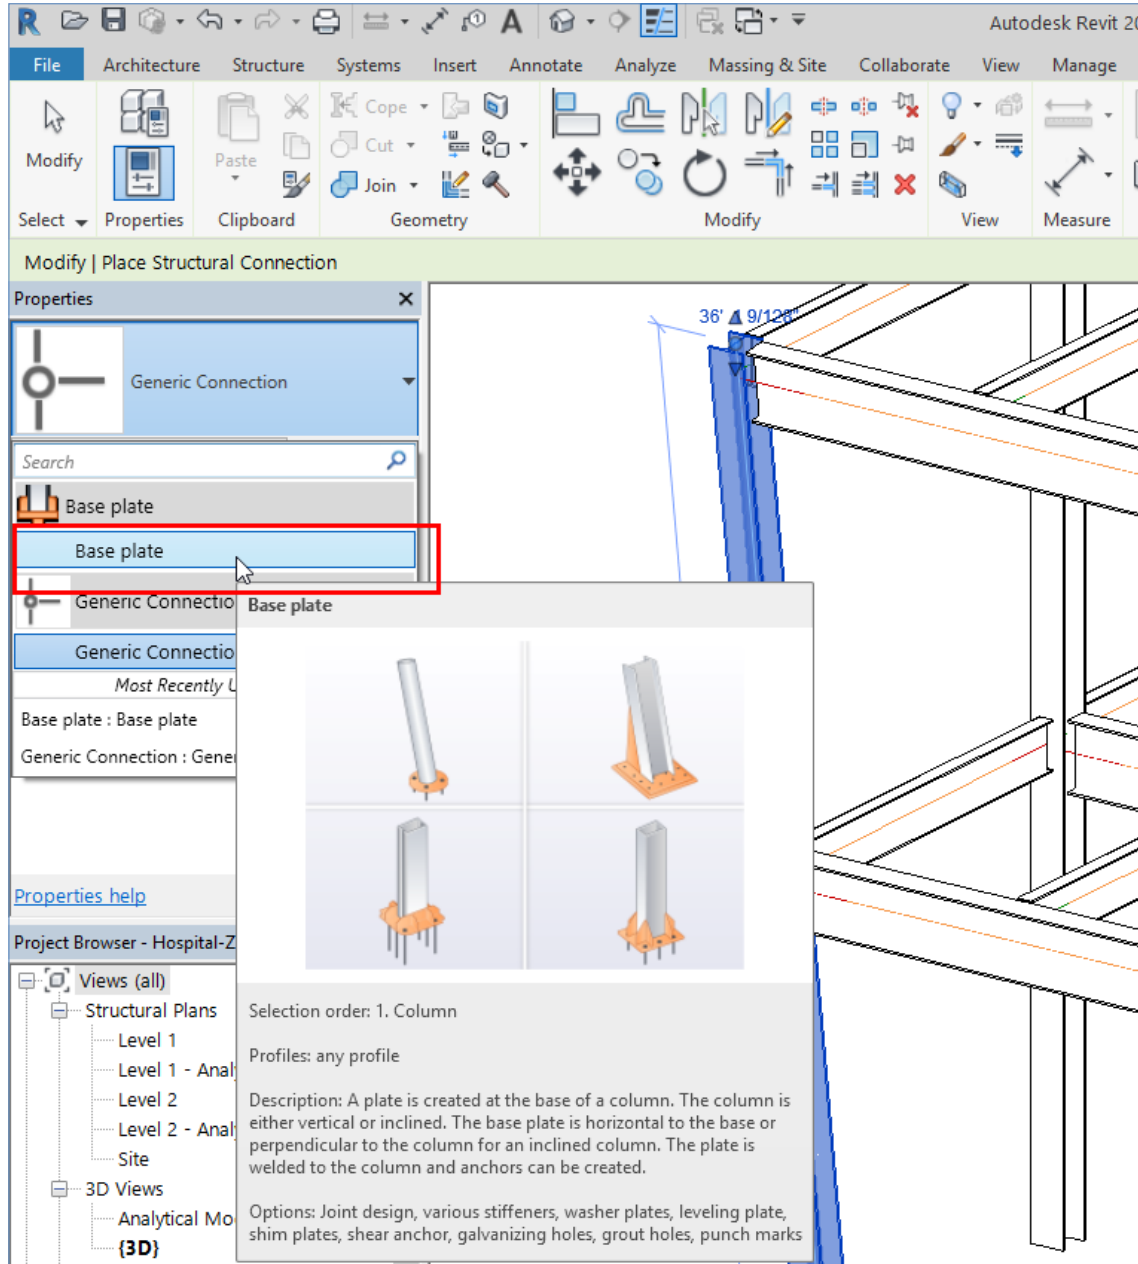

FIGURE 34: SELECTING THE **BASE PLATE** CONNECTION FOR THE COLUMN
2. From the **Properties** window, select **Generic Connection > Base Plate**, as shown in Figure 34.